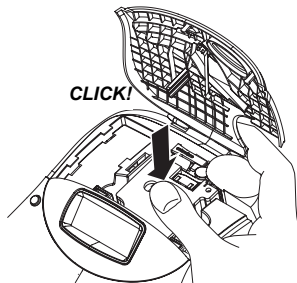

Figure 5
3. Insert the cassette with the tape and ribbon positioned between the print head and pinch roller. See Figure 5.